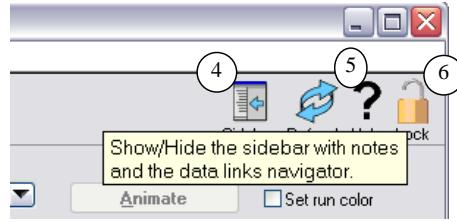

Figure 7. Right-click and hold for information about a button or other control.
3. Right-click and hold on the **Sidebar** button (4) for an on-line description (Figure 7).